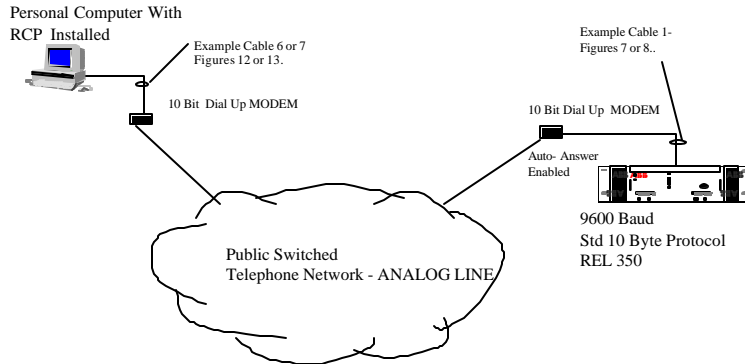
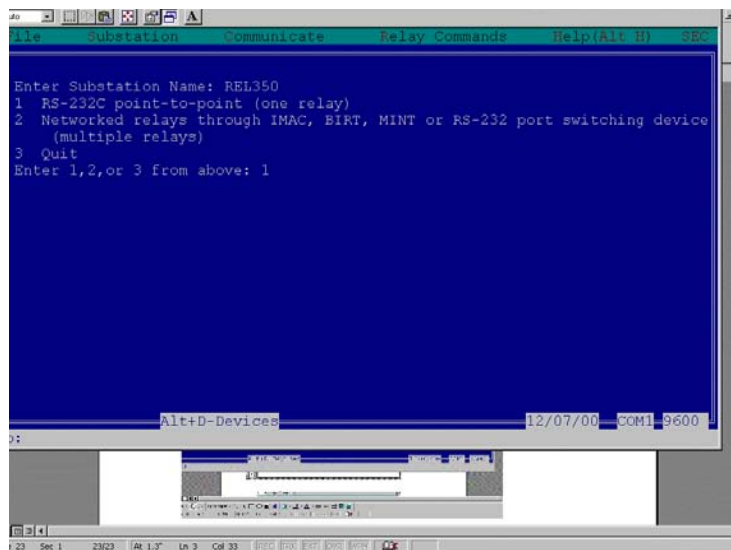

Figure 19 - RCP TO REL 350 Communication Topology Example
Figure 23 – Initial Substation Configuration Screen
If one wished to connect an ABB transmission relay such as a REL 300 (MDAR), REL 301, REL 302, REL 350, REL 352 or REL 356 to its configuration software (RCP – Remote Communication Program), using a dial up configuration as illustrated in Figure 19 is quite possible. The REL transmission relay uses a PONI R card for direct point to point communication via a cable or a modem. Please reference Instruction Leaflet 40-603 titled RCP Communication Program Users GUIDE and Instruction Leaflet 40-610 titled RS-PONI RS 232 Product Operated Network Interface User's Guide.
2. Attach the correct cables as to the relay devices as indicated in Figure 19. In this example however, we shall disable handshaking (RTS/CTS) in the modem, so a straight through DTE to DCE cable is necessary.
As per Figure 19, connect the cables as indicated for the personal computer to modem and the REL 350 PONIR to modem connection. In this example, the handshaking shall be disabled on the PONIR card modem. Thus even using standard off the shelf cables (9 to 25 pin cables with each pin run straight through) shall operate in this example.
A file must be configured for the REL 350 connection. Since a PONI R card is not addressable, it is considered a point to point device. As illustrated in Figure 23, one must pick an option for the configuration. In our example (as shown in the topology of Figure 19), although the REL 350 is networked through a modem, the connection is still point to point, one must select the selection “1” to allow correct connectivity. Figure 23 illustrates the screen queries and answers for this specific example.